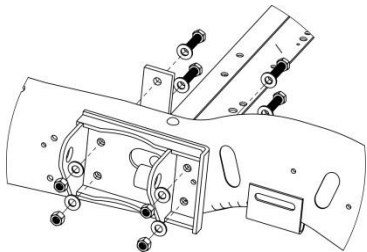

Figure 15. RH Upper Strut Mount Installation
5. Locate the Right Hand Upper Strut Mount and the Backing Plate and loosely attach the components to the Passenger Side of frame, as shown in Figure 15, with the (4) 1/2-13 x 1.75 Hex Flange Bolts and (4) 1/2-13 Lock Nuts.